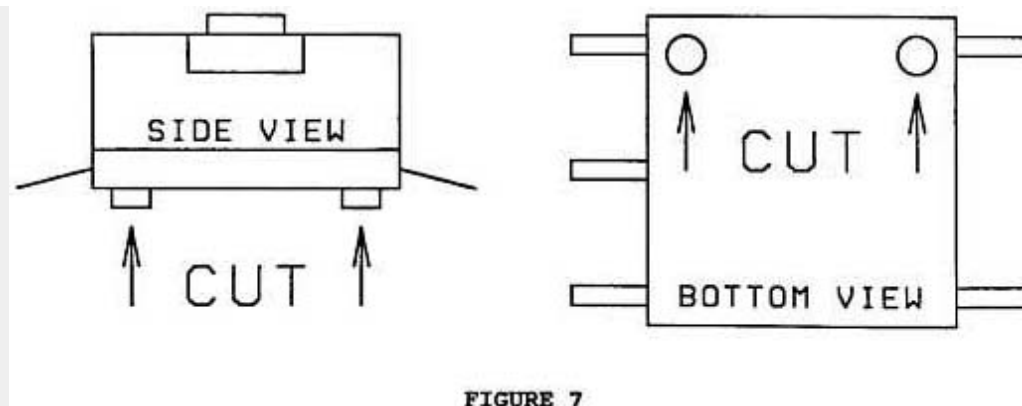

FIGURE 7
14. Cut the tabs off the bottom of the new PTT switch to allow the switch to lay flush on the board. Figure 7.